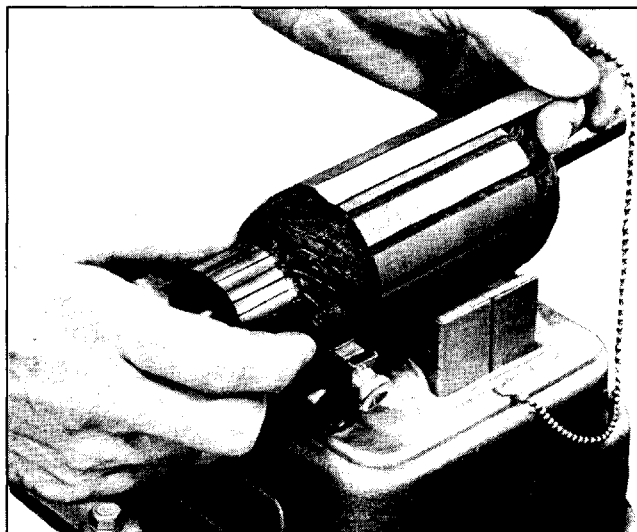

Fig. 12-15 Testing Armature for Shorts
a. Check armature for shorts by placing on growler and with hack saw blade over armature core, rotate armature (Fig. 12-15). If saw blade vibrates, armature or commutator is shorted. Recheck after cleaning between the commutator bars and if saw blade still vibrates, armature is shorted and must be replaced.